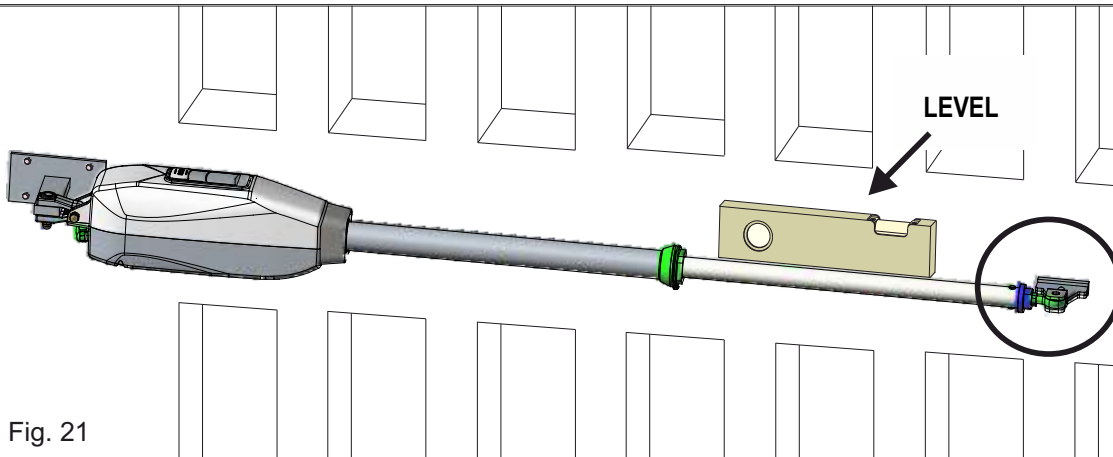
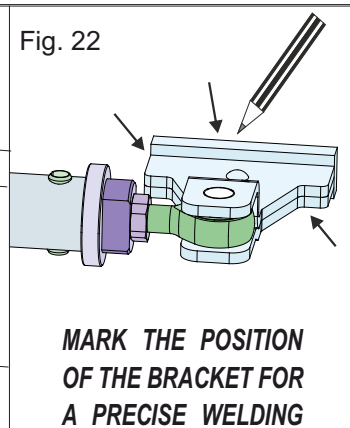

Fig. 21
Fig. 22
- Place the front bracket on the gate and place the shaft in the housing - Fig. 22
- With the help of a level - Fig. 21 - **make sure that the operator is in a perfectly horizontal position** then mark the front bracket position - Fig. 22